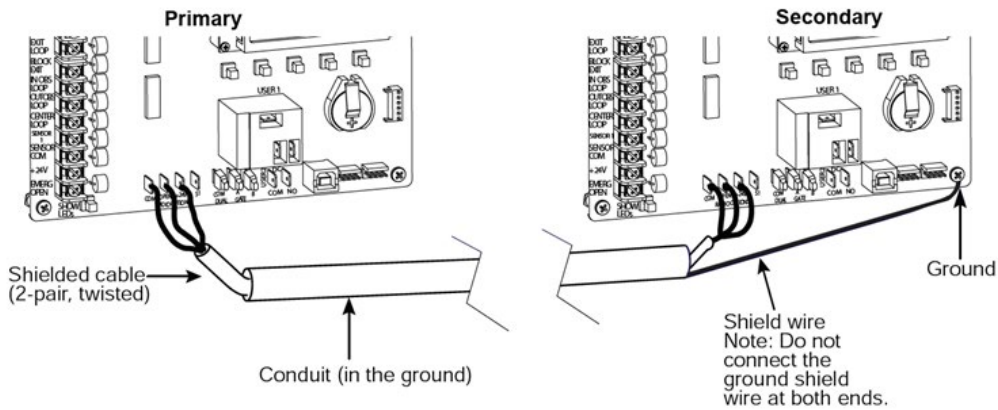

Figure 18. Primary and Secondary Connections
- An electrical conduit for interconnecting wires must span between the two operators. The primary-secondary communication wires and any low voltage control wires must be installed in a conduit that is separate from the high voltage power wires. Refer to “*Figure 18. Primary and Secondary Connections*” on page 102.
1. As shown in Figure 18, connect a shielded communications cable to the DUAL GATE inputs in each unit. The inputs are located near the base of the SmartDC Controller. Be sure to connect the wires in pairs to the same terminal ports (A-A, B-B, and COM to COM) on both units. See Primary Secondary Connections on SDC Boards - Table 10.
2. Attach a ring terminal to the shield wire and connect it to the SmartDC Controller’s convenient ground screw. Refer to Figure 18.